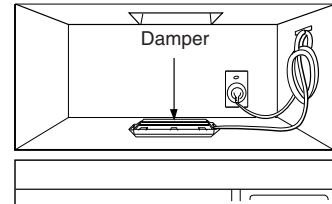

Figure 32
5. Roof venting installation: See Figure 32.